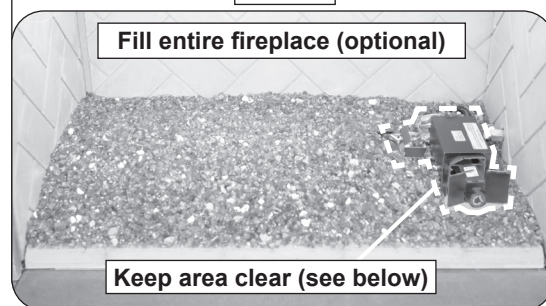

Fig. 20-1 Glass media placement
1. After the required sand/vermiculite and screen have been placed, pour the glass media (glass, gems) so that the burner pan is covered completely and evenly (see Fig. 20-1).
- DO NOT place any glass media directly on the pilot assembly, on or within the heatshield, or under a knob if one exists at the front of the valve (see Fig. 20-1 and Fig. 20-3).
2. Complete placement by pouring the remaining glass media on the floor of the fireplace, around the front, rear, and sides of the burner system (see Fig. 20-1).